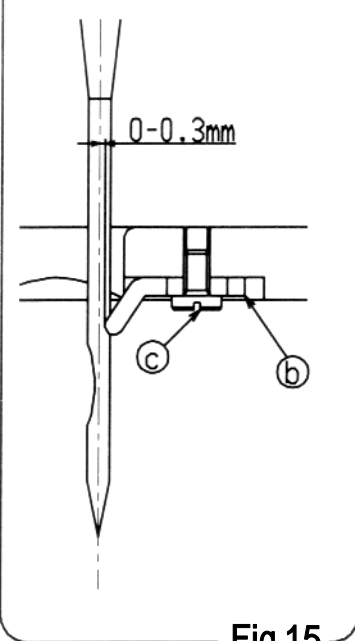

Fig.15
- a) Fixing Throat Plate Thread Retainer (Fig.15)
- a) 針板爪の取付 (Fig.15)